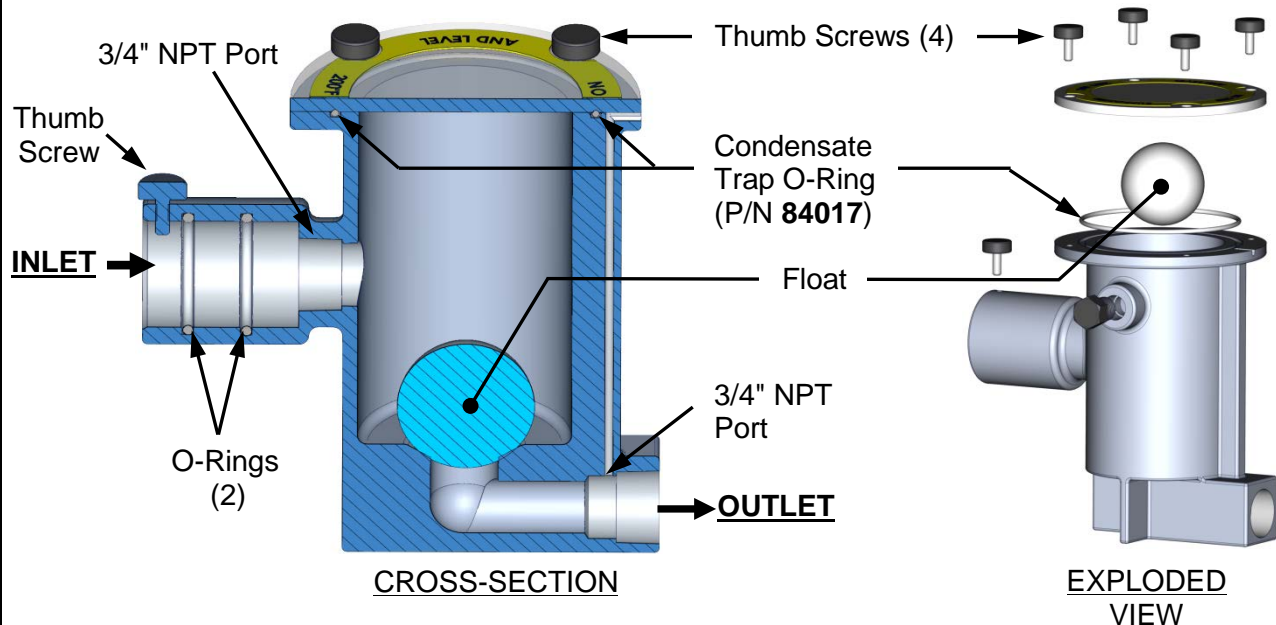

Figure 6-10a. Original Condensate Trap P/N 24441
1. Disconnect the external condensate trap by loosening and then removing connections on the inlet and outlet sides of the trap (see Figure 6-10a).
2. Loosen the four (4) thumbscrews securing the trap's cover and then remove the cover and the O-ring from under the cover.